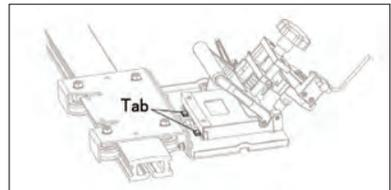

Figure 8
3. Touch the BAB1590 to the tabs to make parallel. (See Figure 8)